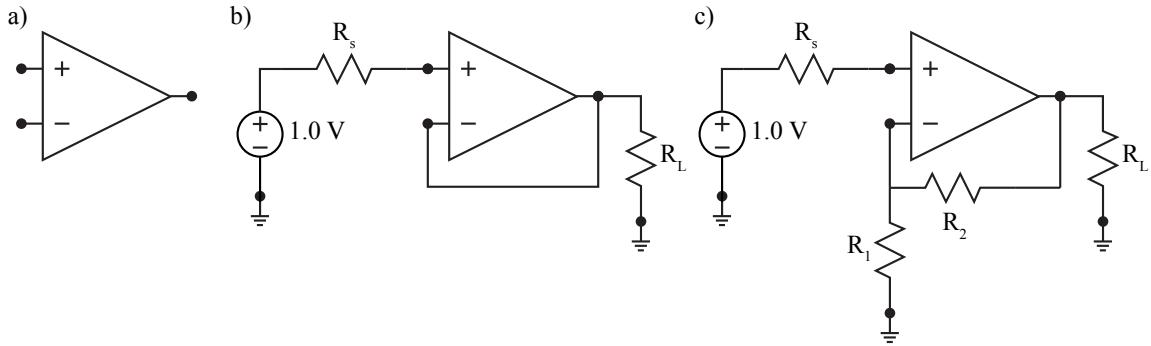

Figure 4.5: The VSCS model redrawn as the more common amplifier model symbol (a), unity gain configuration (b), and non-inverting gain configuration (c).
The VCVS model developed in previous sections has been re-drawn using the more common symbol for an amplifier as shown in Figure 4.5 (a). However, the model is still the same and it's not required to redraw your model.
1. Construct the circuit as shown in Figure 4.5 (b). The resistors R_S and R_L remain $50\ \Omega$ and $1\ k\Omega$ respectively.
3. Construct the circuit as shown in Figure 4.5 (c). Set R_2 to $2\ k\Omega$ and R_1 to $1\ k\Omega$. The resistors R_S and R_L remain $50\ \Omega$ and $1\ k\Omega$ respectively.